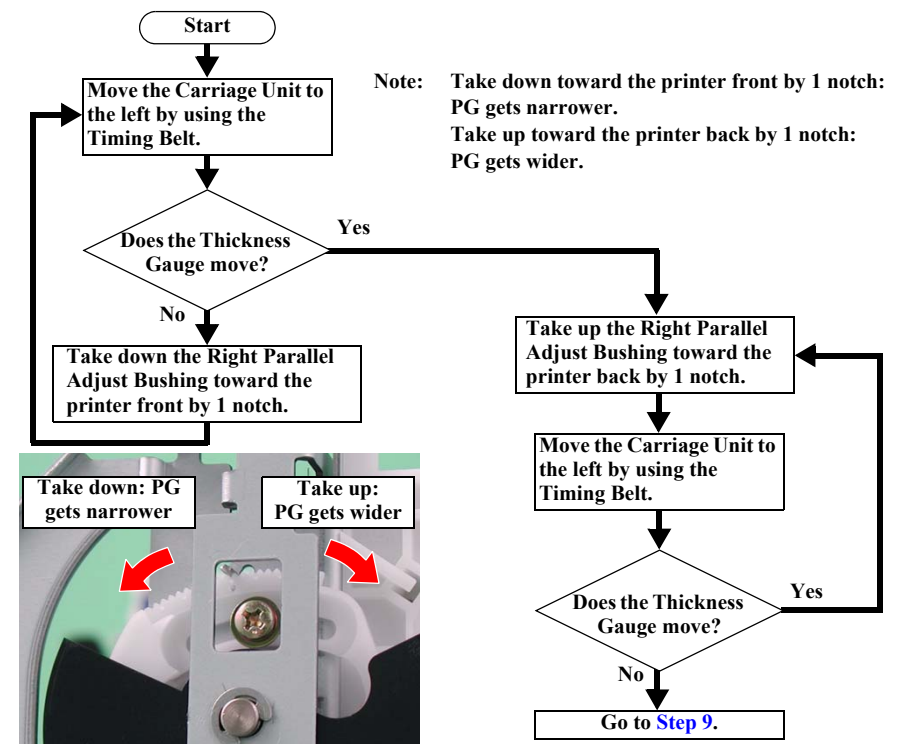

Figure 3-11. PG Adjustment (Right Side)
8. Implement PG Adjustment on the right according to the flowchart in the Figure 3-11.